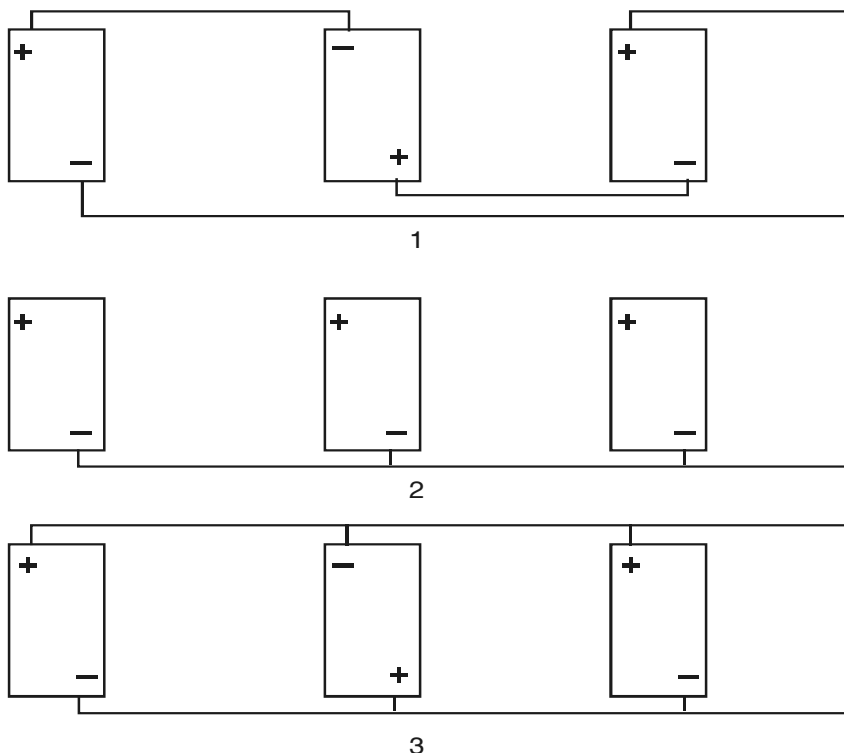

Figure 9.29.
84. (Refer to figure 9.29) Which of the batteries are connected together incorrectly?